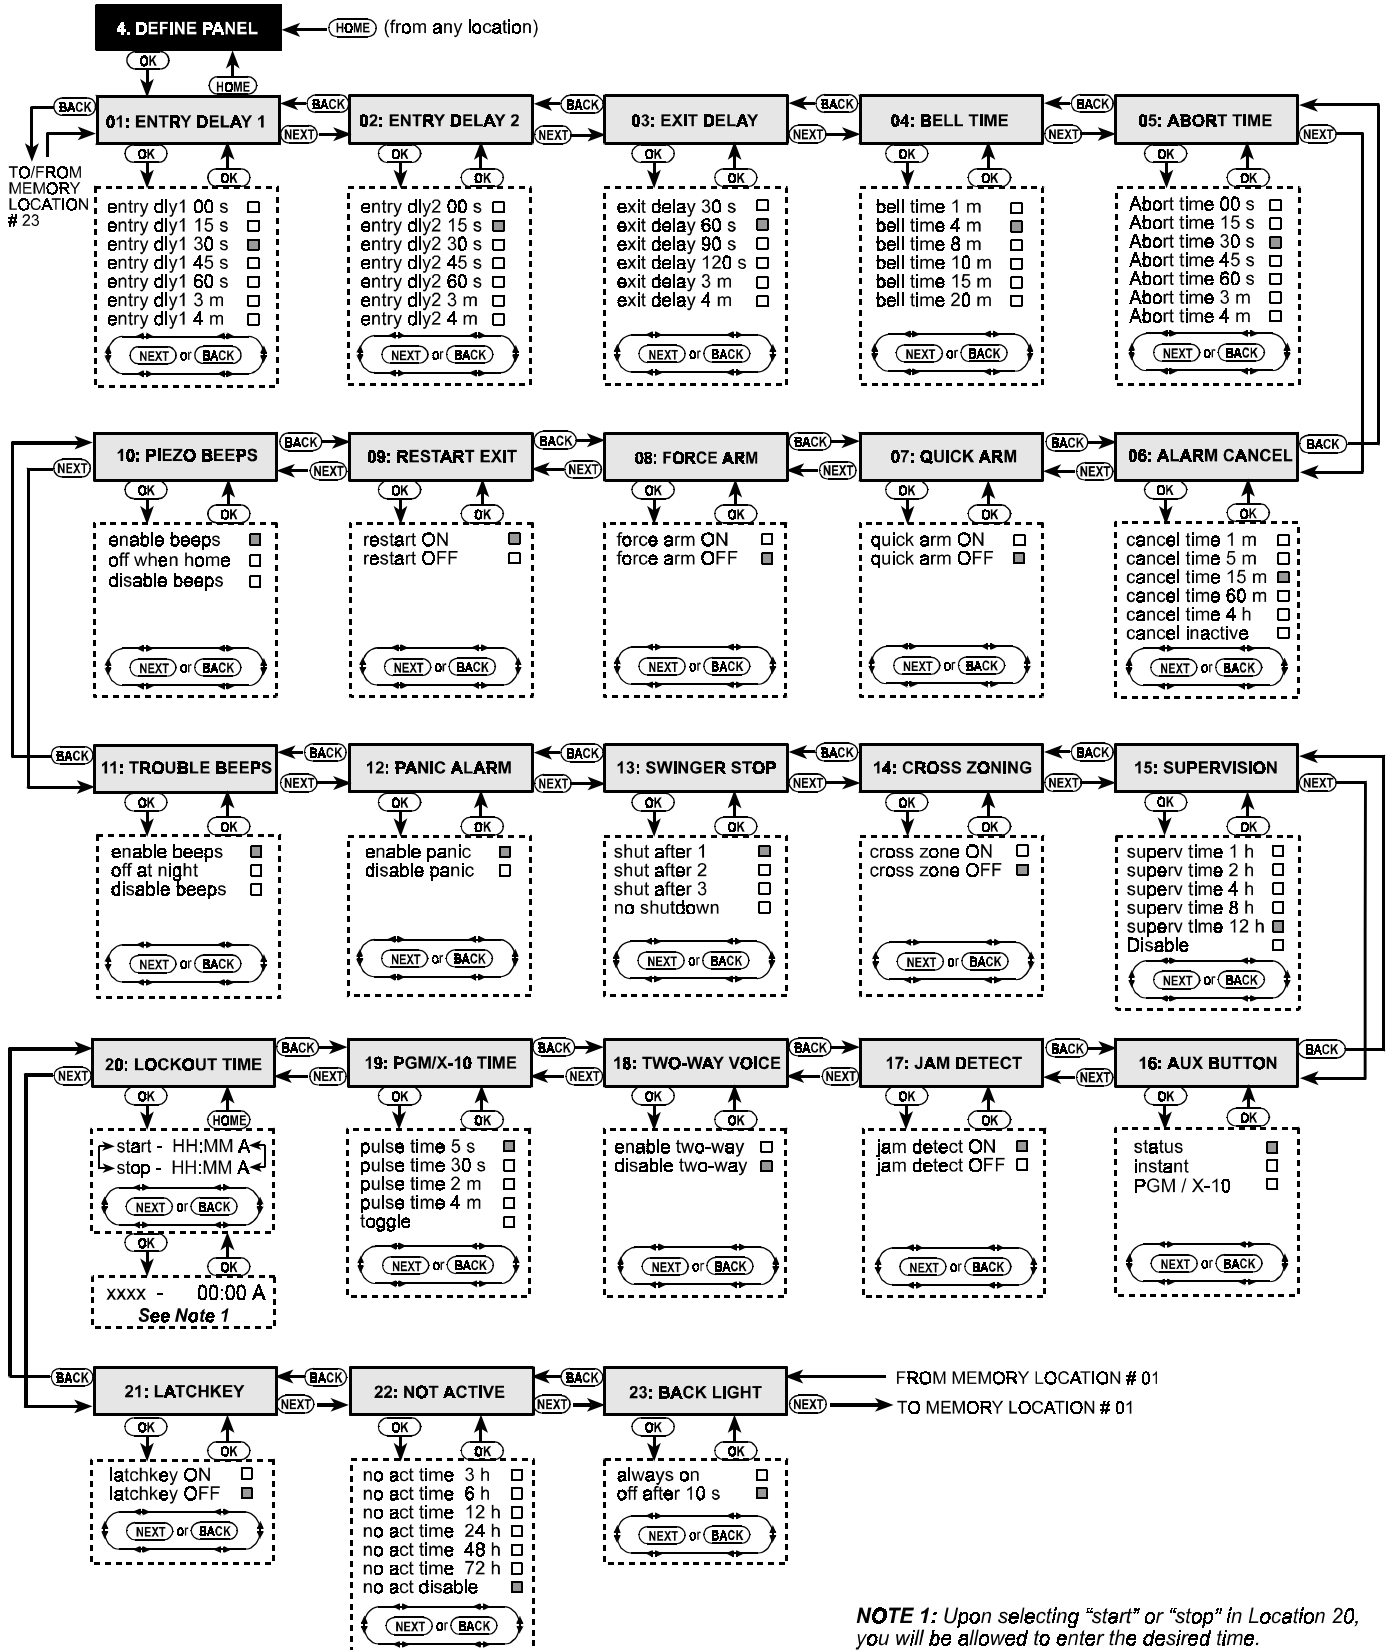

Figure 4. DEFINE PANEL Flow Chart
Should you wish to get an overall view of the entire programming process, refer to the programming chart in Figure 4. You may even use the chart as your only guide along the programming process, instead of going through the written step-by-step procedure.
- Click <NEXT> or <BACK> until you reach the memory location you wish to access (see rectangles 01 to 23 in Figure 4).